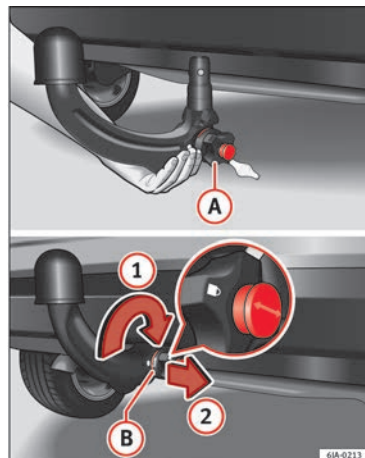

Fig. 102 Placing the ball-headed bar/locking and removing the key.
- Hold the ball-headed bar from underneath **»» Fig. 102** and push it into the clamping bush as far as possible until you hear it click into place **»» ⚠**.